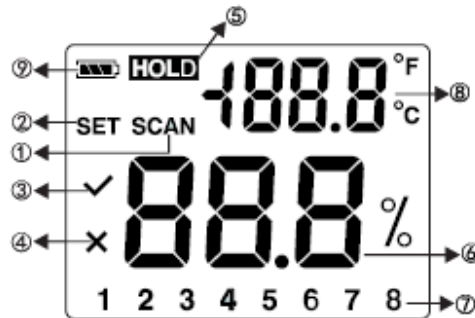

Figure 1
1. LCD full screen display: as shown in (Figure 1)
- ① Measurement prompt
- ② Moisture setting prompt
- ③ Not exceed the upper limit
- ④ Exceed the upper limit
- ⑤ Measurement data holding symbol
- ⑥ Measurement reading
- ⑦ Gear
- ⑧ Temperature value
- ⑨ Battery level indication